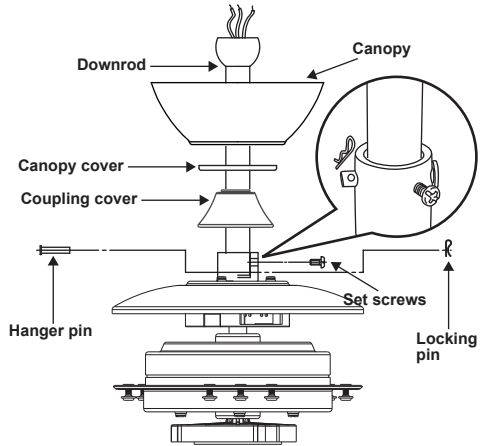

Figure 6
Step 3. Remove the hanger pin, locking pin from the downrod assembly, and remove the set screws from the top of the motor. (Fig. 6)
Step 4. Route wires exiting from the top of the fan motor through the coupling cover, canopy cover and canopy, then through the ball/downrod. (Fig. 6)
Step 5. Align the holes at the bottom of the downrod with the holes in the collar on top of the motor housing (Fig. 6). Carefully insert the hanger pin through the holes in the collar and downrod. Be careful not to jam the pin against the wiring inside the downrod. Insert the locking pin through the hole near the end of the hanger pin until it snaps into its locked position, as noted in the circle inset of Fig. 6.
Step 6. Tighten two set screws against the downrod on top of the fan motor firmly. (Fig. 6)